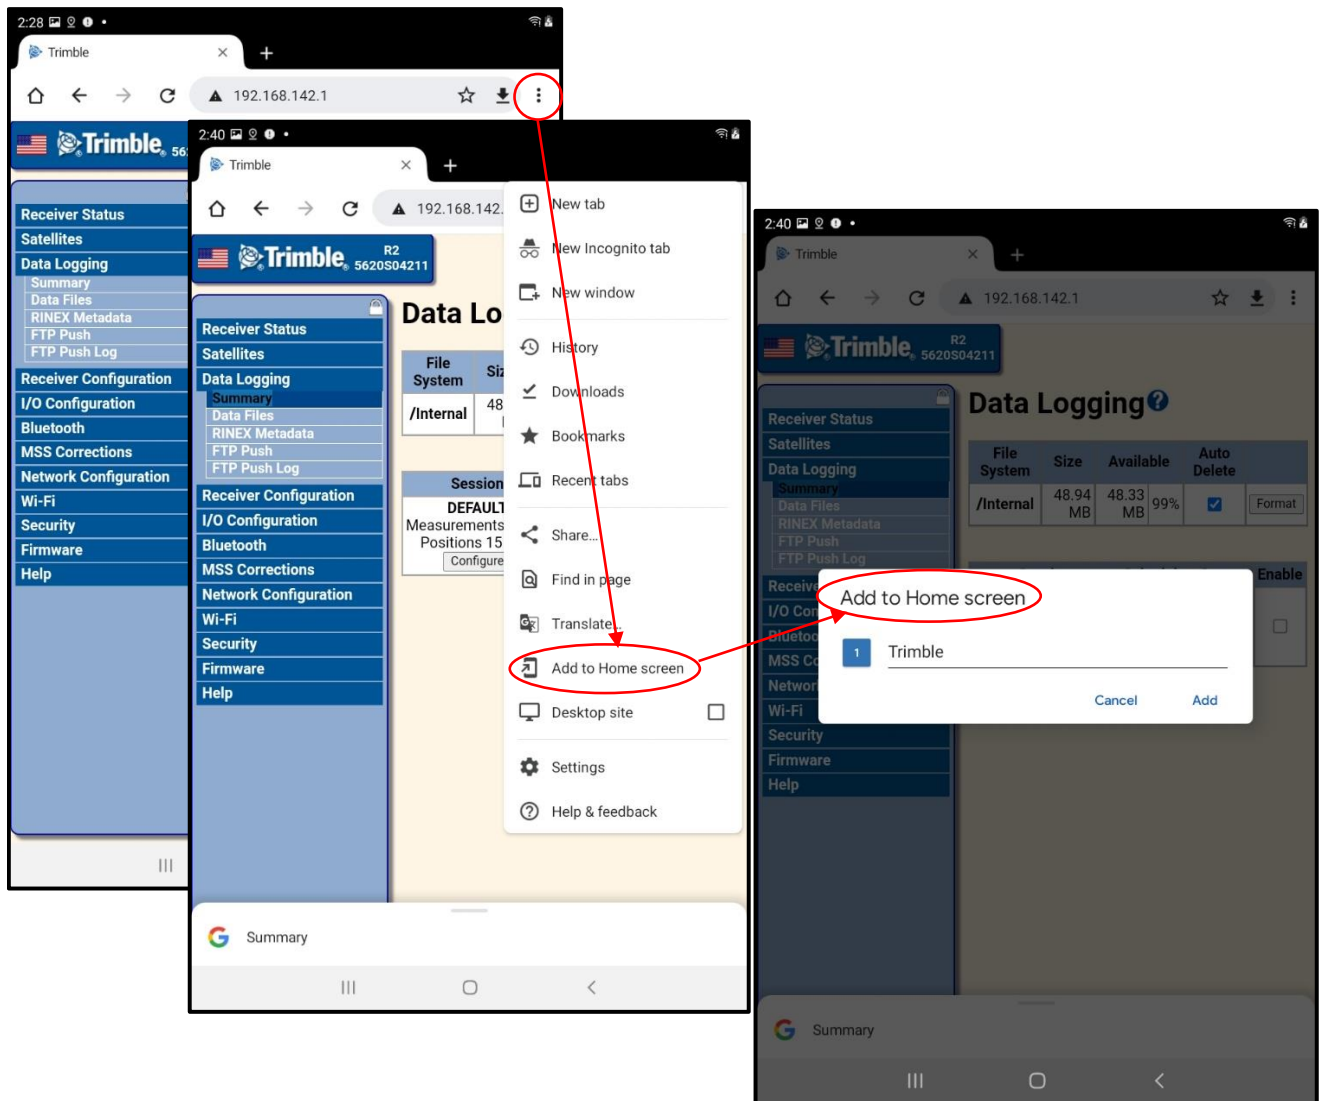

Figure 29. Figure showing Trimble R2 Samsung Galaxy Tab A Home Screen Shortcut workflow with red circles and arrows showing the workflow.
- c. Save the URL to your Device for Quick Access (Figure 29)